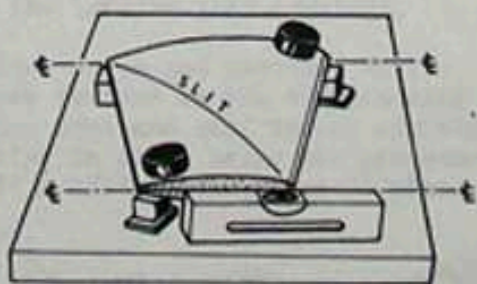

Fig. 10
C. Draw a centerline on the root and tip airfoil. Block and weight wing on your work surface and check with a spirit level until both centerlines are level. Figure 10 illustrates this procedure. When you are satisfied that the wing is straight, squeegee 5-minute epoxy into the slit and let it cure.